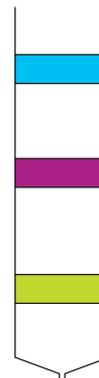

FIGURE 2 Separation of pigments in a plant sample
- 4 Column chromatography was performed to identify the pigments within a plant sample. The results are shown in Figure 2. What conclusions could be drawn about the blue pigment?